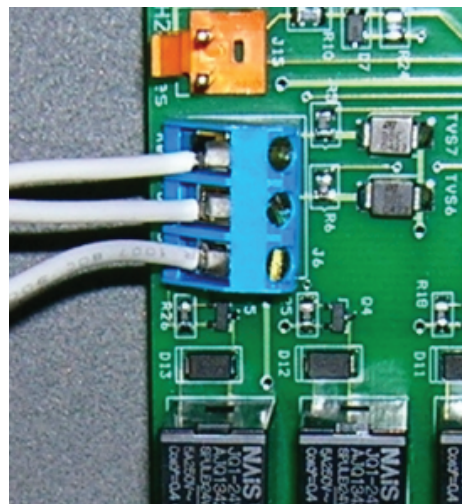

Figure 16. Remote Pool-Off-Spa Connection (3-Wire Connection)
4. Connect the wiring from the pool/spa control system to the heater remote control terminal. See Figure 16.